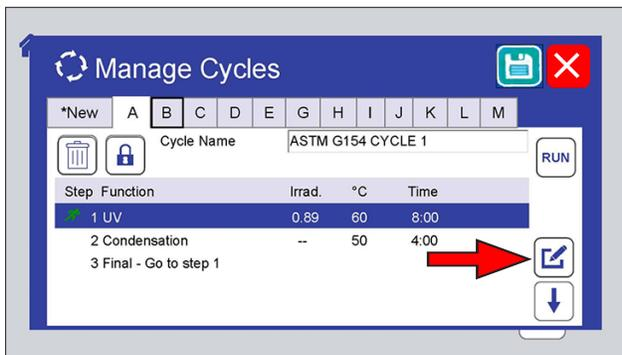
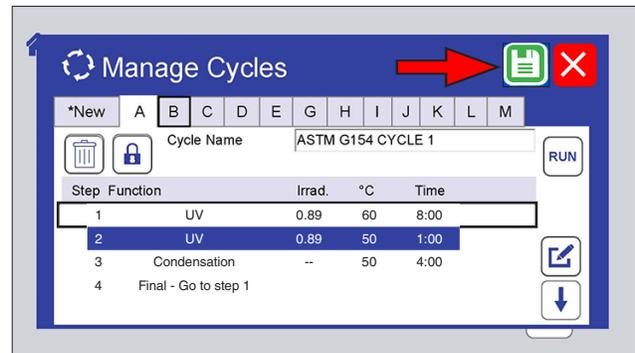

Figure 11.7.4a: For any cycle, a new step can be added before or after an existing step. Select the existing step then touch the Edit icon.
Figure 11.7.6d: Touch the save icon to save the edited cycle.
- Add, edit, or delete steps in a cycle (Figure 11.7.4a through Figure 11.7.6d). Pre-programmed test cycles cannot be edited (they can be deleted).